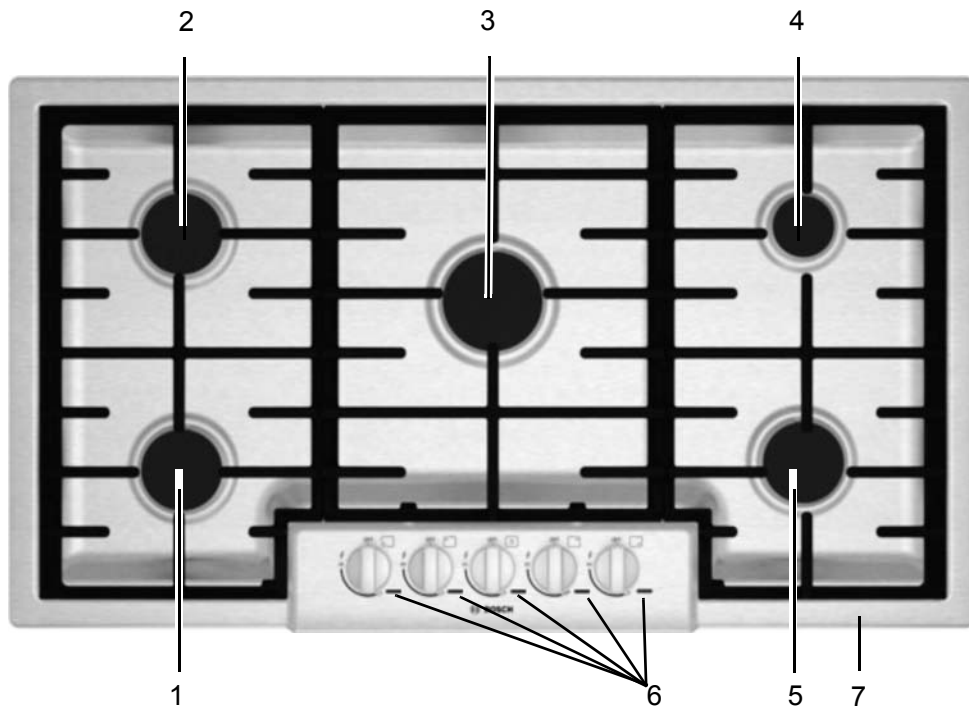

Figure 5: Model NGMP655UC
- Place each burner cap on its correct burner base per its corresponding letter designation. See *Figure 5 “Burners Caps” on page 11.*